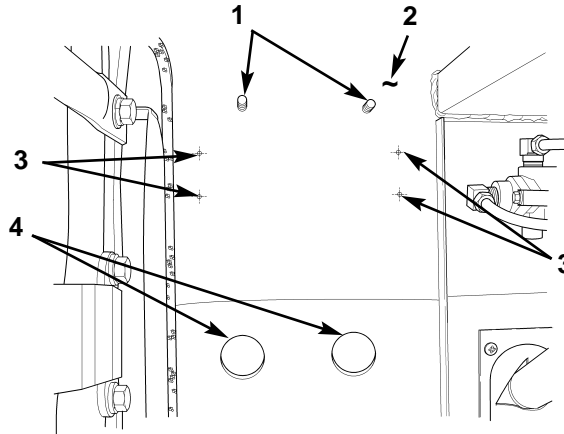

Figure 73. Drilling Holes for ABS ECU and Bulkhead Connectors.
1. Working inside cab left of steering column, position T1 template (supplied in ABS kit) over two studs (figure 73, item 1), and mark location of four holes (figure 73, item 3) and two holes (figure 73, item 4) on cab firewall (figure 73, item 2). Remove T1 template.
2. Drill four 3/16 in. (5 mm) holes (figure 73, item 3) and two 1-1/2 in. (38 mm) holes (figure 73, item 4) through cab firewall (figure 73, item 2).